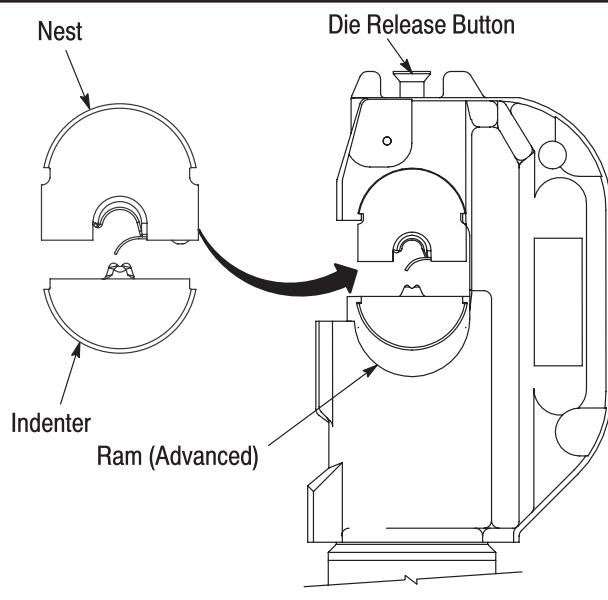

Figure 2
3.1. Die Installation (Figure 2)
2. Slide the nest into place in "C"-head. See Figure 2.
6. Slide the indenter into position in the ram. See Figure 2.
3.2. Die Removal (Figure 2)